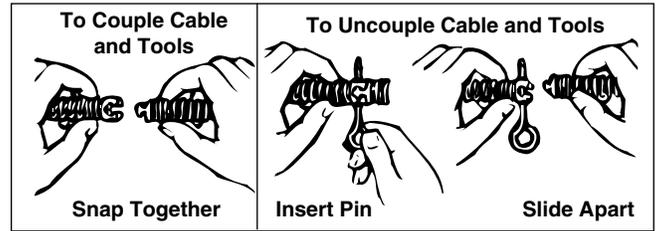

Figure 5 – Coupling and Uncoupling Tools
- Select and install the proper tool to the end of the cable. The T-Slot Coupler allows the tool to be snapped into the cable coupler (Figure 5). To remove tool, use the pin key to depress the plunger and slide the coupler apart.